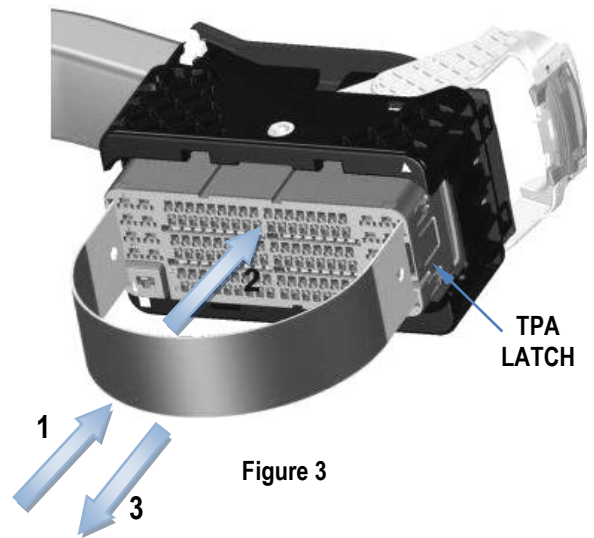

Figure 3
2. While keeping the extractor tool in this position pull down on the (TPA) secondary lock. See Figure 3.